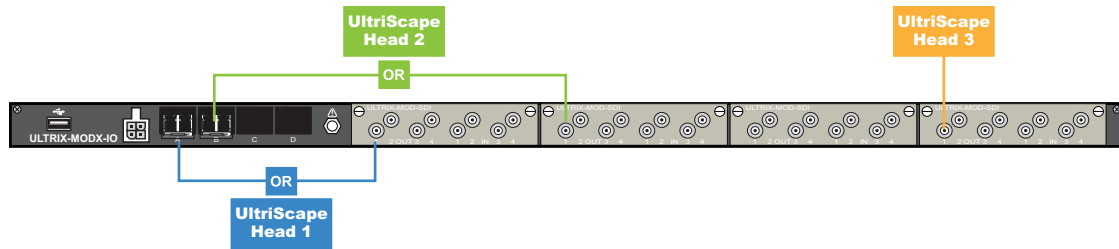

Figure 16 Example of UltraScape Head Mapping on a Single ULTRIX-MODX-IO Blade with Four ULTRIX-MOD-SDI
- Up to one Multiviewer Head (refer to **Figure 16**)
Figure 16 illustrates the connections allocated for UltraScape Heads on an ULTRIX-MODX-IO with four ULTRIX-MOD-SDI.